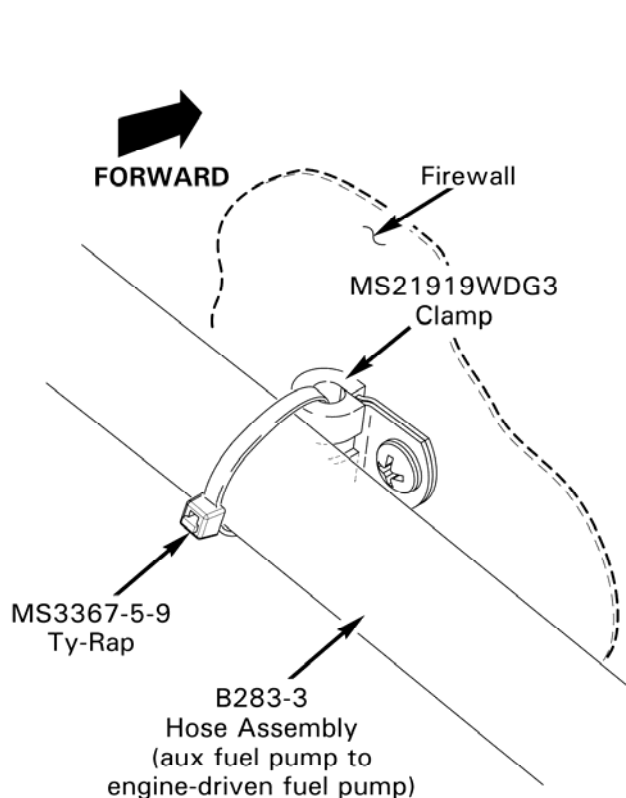

FIGURE 1
4. Refer to Figure 1. Attach MS21919WDG3 clamp to firewall using retained hardware, with fastener head toward hose as shown.